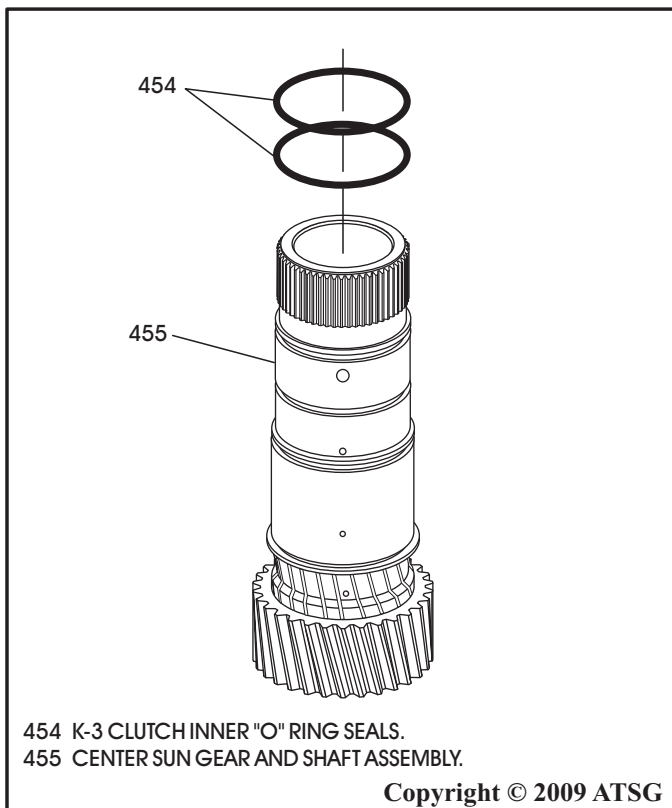

Figure 128
8. Install two new K-3 clutch "O" ring seals into the grooves in the center sun gear and shaft, as shown in Figure 128, and lube with a small amount of Trans-Jel®.